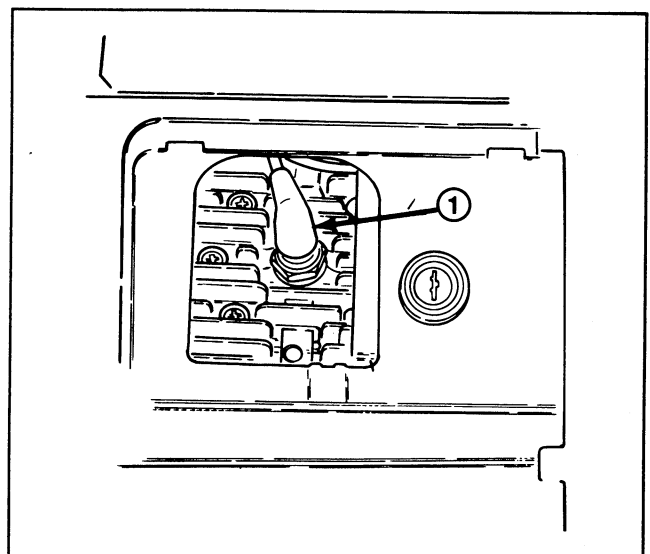

Figure 15
2. **REMOVE SPARK PLUG** (Fig. 15) – Pull wire off spark plug and remove plug. Examine the plug and replace if cracked, fouled, or dirty. **DO NOT SANDBLAST, SCRAPE, OR CLEAN SPARK PLUG BECAUSE DIRT MAY RELEASE AND FALL INTO CYLINDER CAUSING ENGINE DAMAGE.**